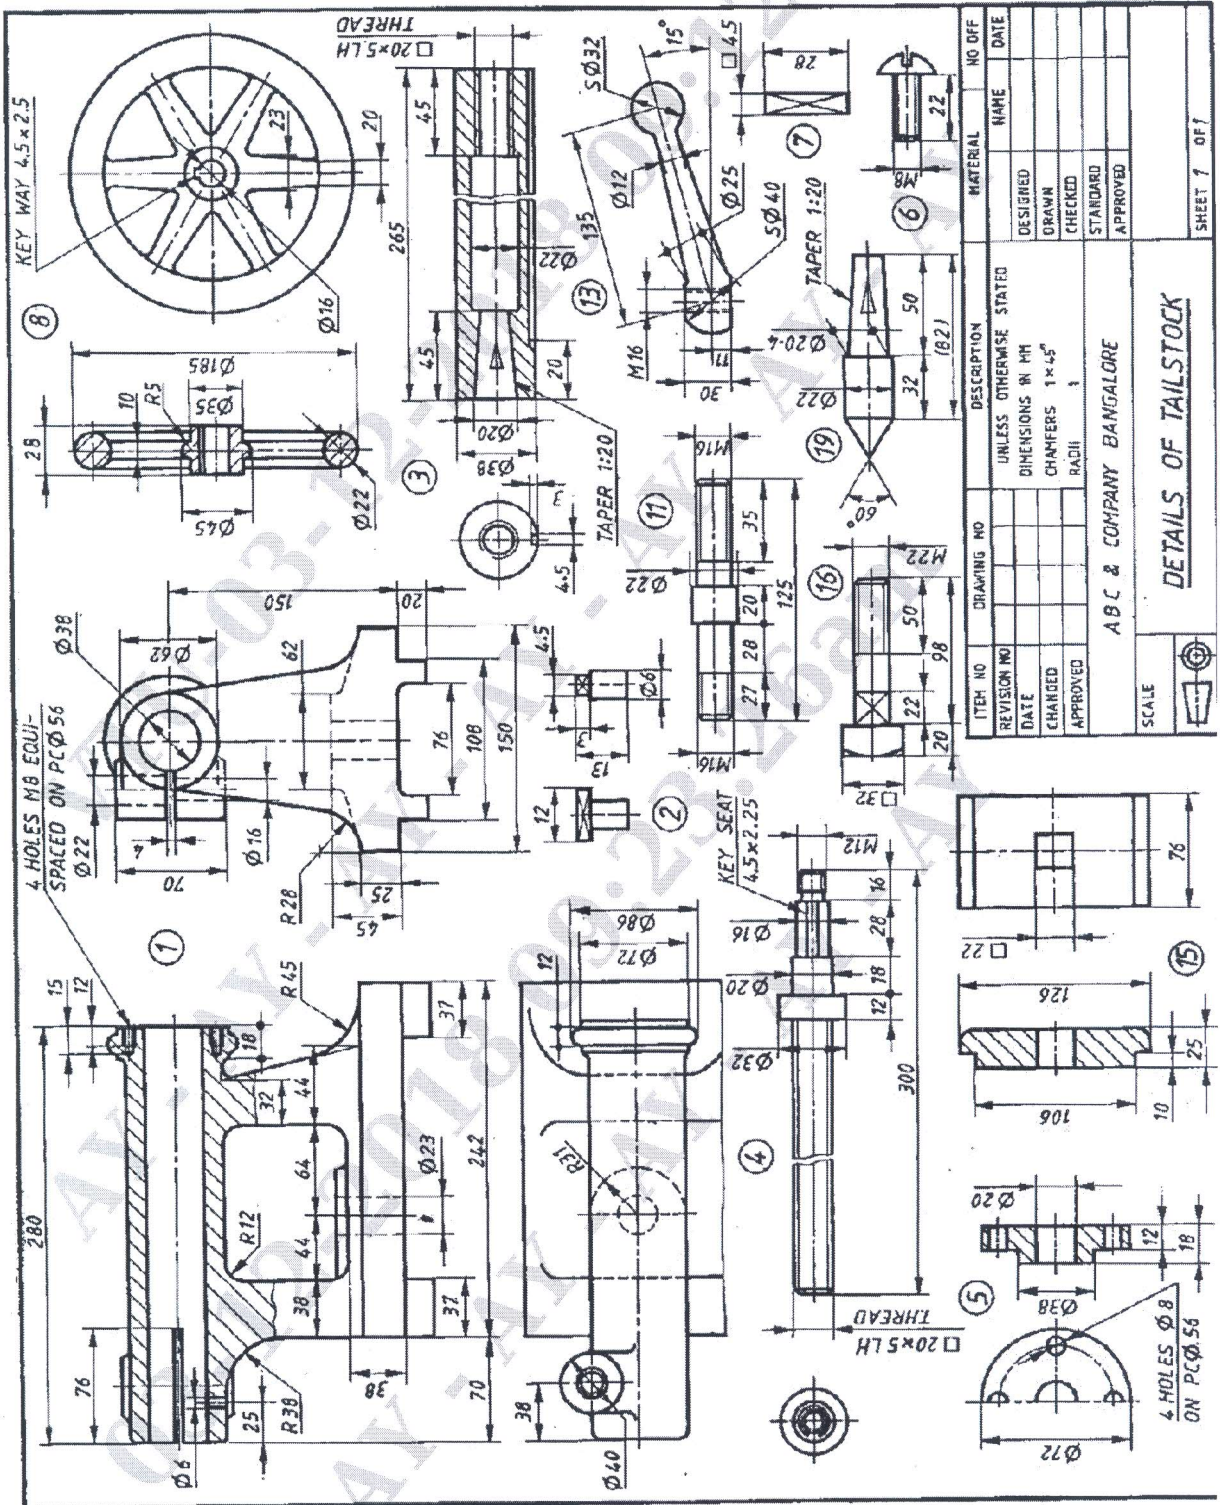

Figure 2: Details of tailstock
- Q.No.6** Figure 2 shows the part drawing of a tail stock. Assemble the tail stock and show the following views.